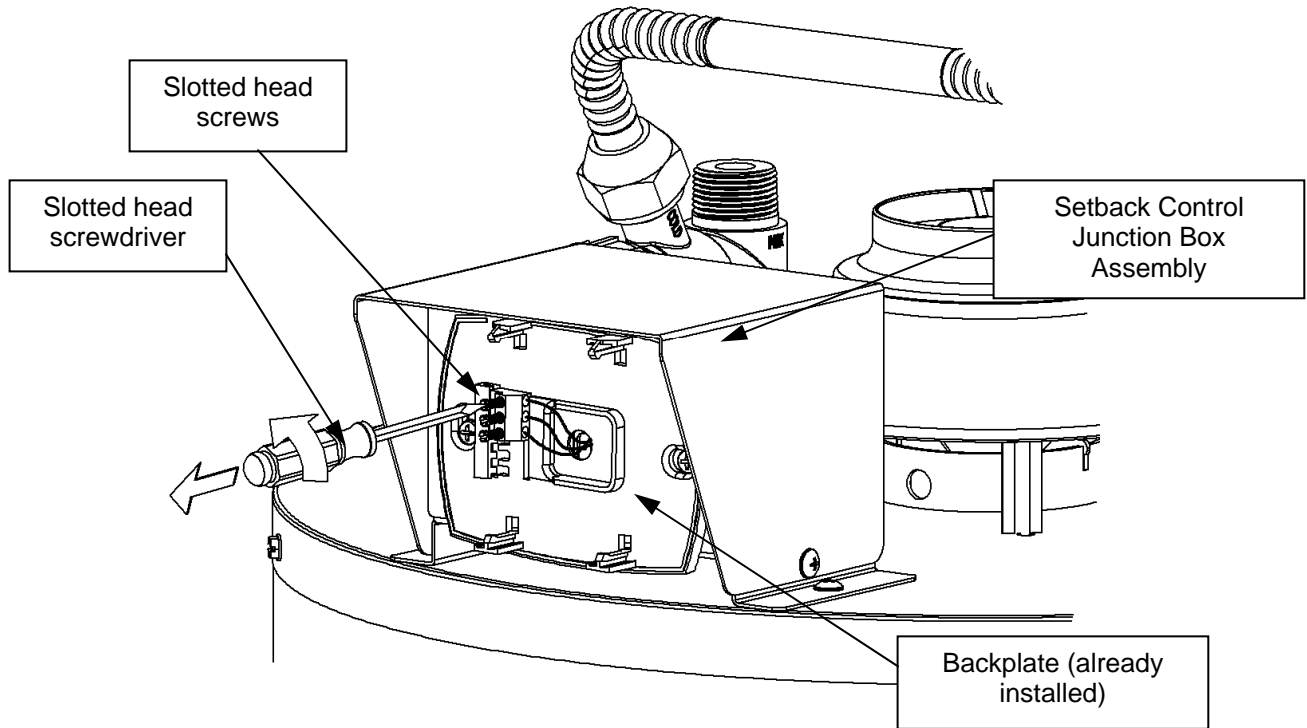

Figure 9
Step 3: Loosen the (3) slotted screws on the backplate attached to the Setback Control Junction Box Assembly. This is shown in Figure 9.